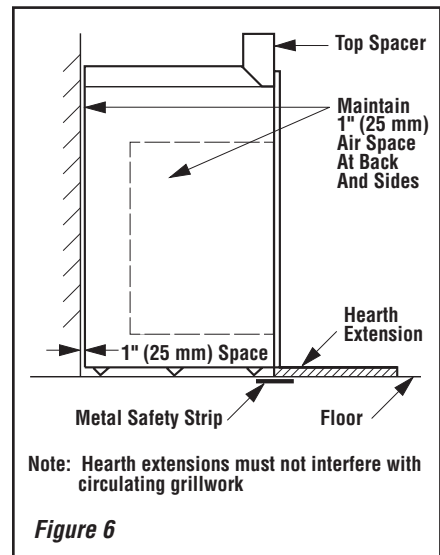

Figure 6
Step 2. Insert the provided metal safety strips, beneath the fireplace as illustrated (**Figures 6 through 9**). The safety strips should overlap 1/2" for continual coverage of the floor.